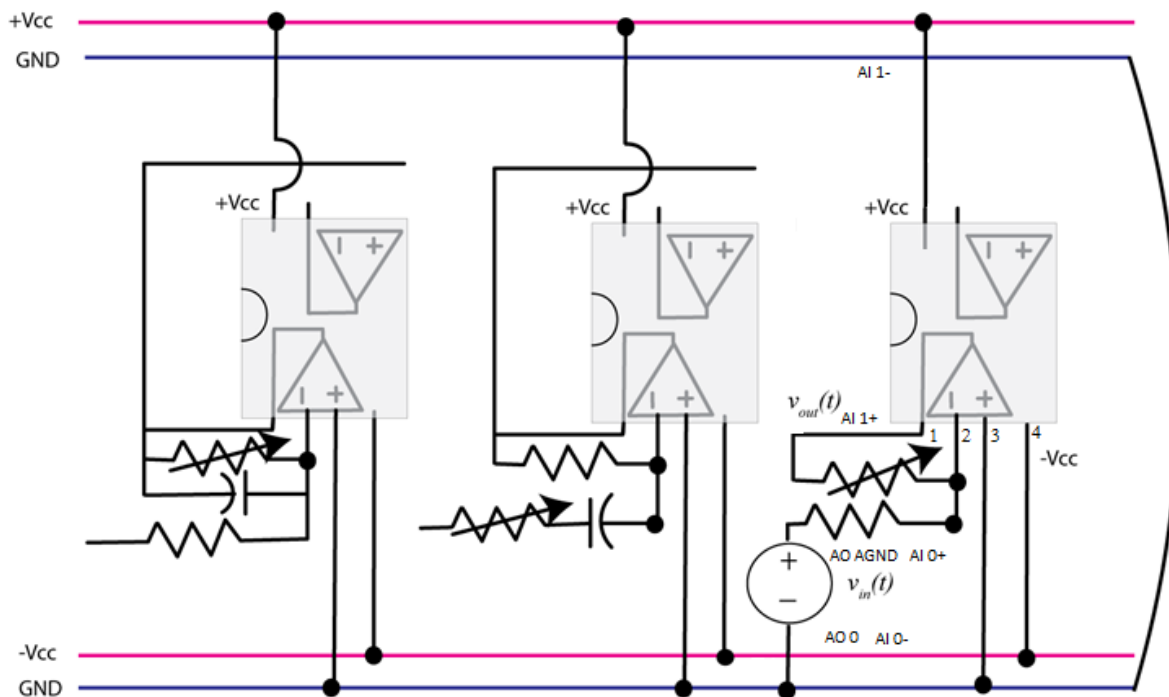

Figure 11: Lowpass, highpass, and all pass subsystems.
1. Construct the gain subsystem, as shown in Figure 11.